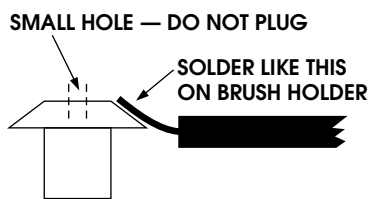

Fig. 1
- Solder the ORANGE and GRAY wires to the brush holders as shown in Fig. 1.